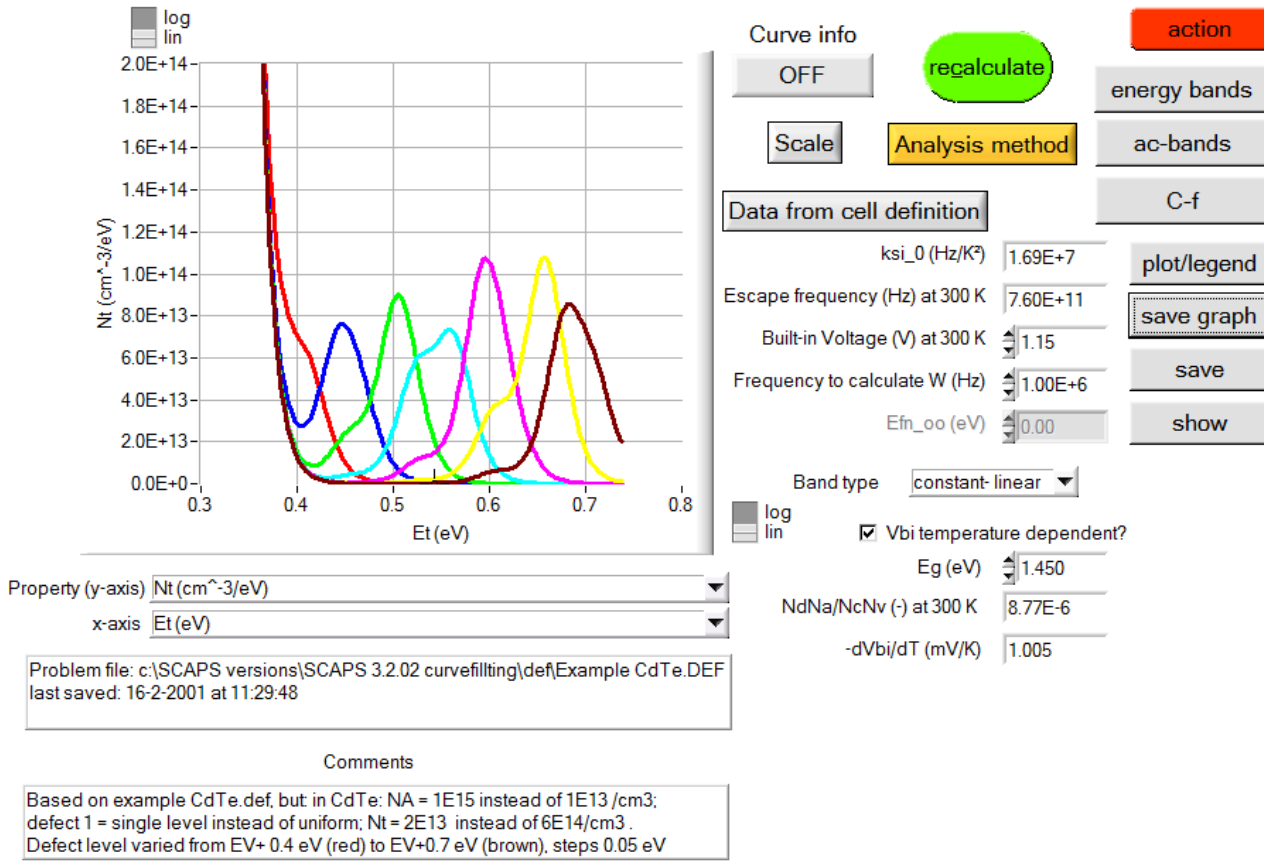

Figure 6.6 The AS panel
This panel displays the capacitance and conductance as a function of simulation frequency. Moreover, a Nyquist plot and a plot of G/ω is given. A facility has been added to analyse the results according to the admittance spectroscopy (AS) method outlined in [17] and extended in [18]. By clicking the 'Admittance spectroscopy' - button the AS-panel is displayed, see Figure 6.6.